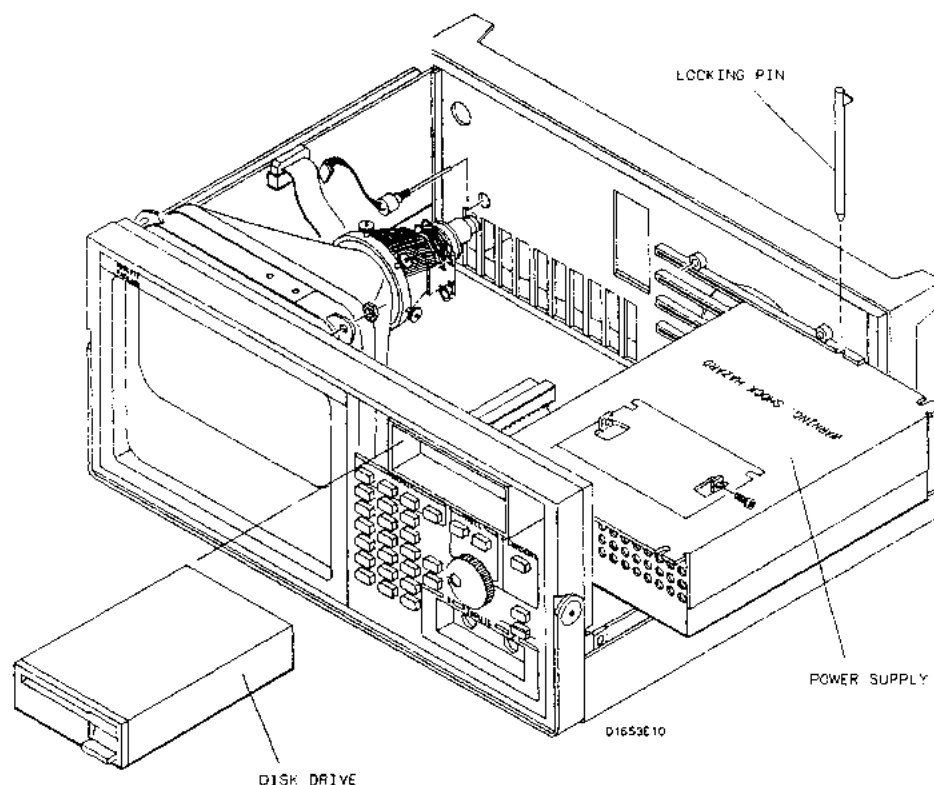

Figure 6D-2. Disk Drive and Power Supply Removal
6. Slide the disk drive through the front panel of the instrument cabinet as in figure 6D-2.